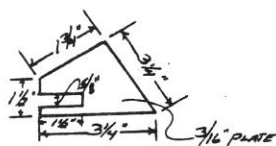
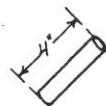
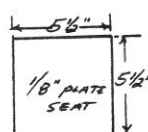

FIGURE 9
FIGURE 10
FIGURE 11
7. Make 2 rear axle supports out of $3/16"$ plate as shown in Figure 9. See back on page 3 for full size pattern. Cut off a piece of $5/8"$ ID tubing for the front fork support as shown in Figure 10. Make the motor mount and seat plate out of $1/8"$ plate as shown in Figure 11 and 12. Do not drill holes for the engine yet.